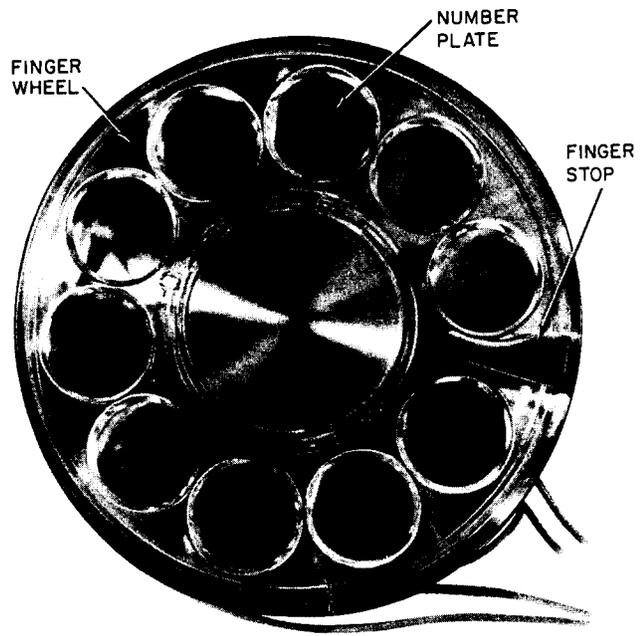

Fig. 5—11E Dial, Front View
2.09 The 11E dial (Fig. 5) gear train and contact spring assemblies are the same as those in the 10B dial.